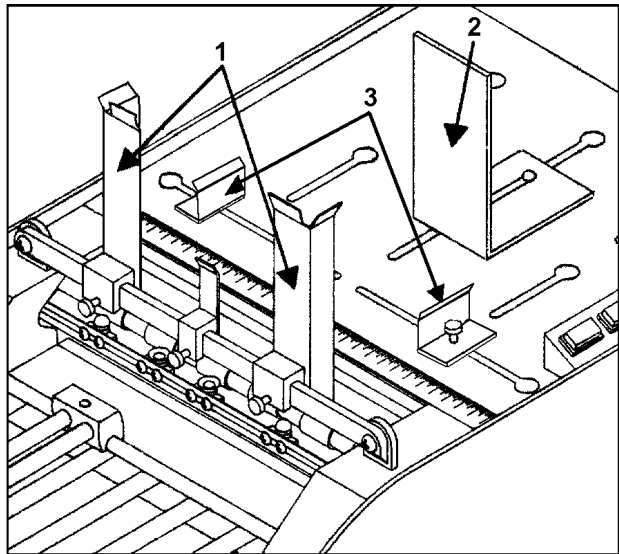

Figure 7
5. Attach Front Envelope Guides [#1, Fig. 7] approximately in middle of Feeder (as shown).
7. Attach Rear Envelope Guide [#2, Fig. 7] using slot in Feeder floor nearest rear end of envelope, then adjust Anti-skewing Guides to sides of envelope [#3, Fig. 7].